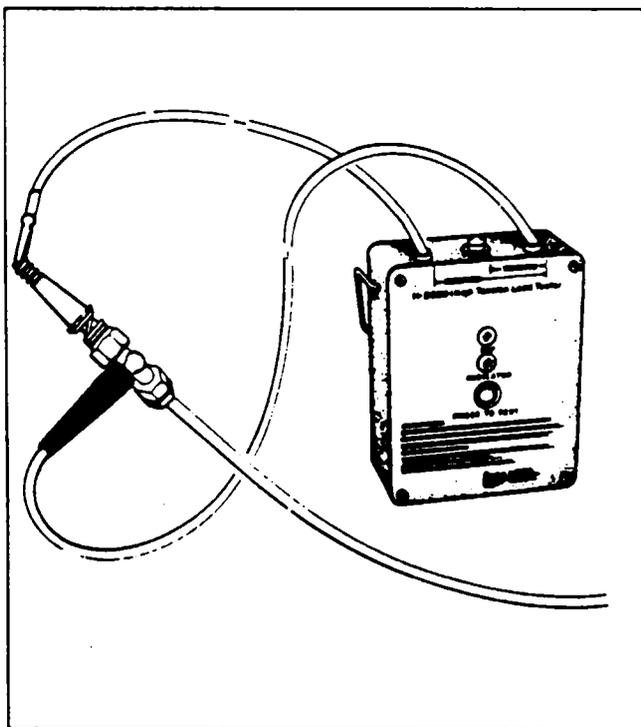

Figure 74-10. Checking Harness Lead
- A. Attach the red high voltage test lead to contact spring of harness lead. (Refer to Figure 74-10.)
- B. Attach the black test lead to the ferrule of the same harness lead. (Refer to Figure 74-10.)